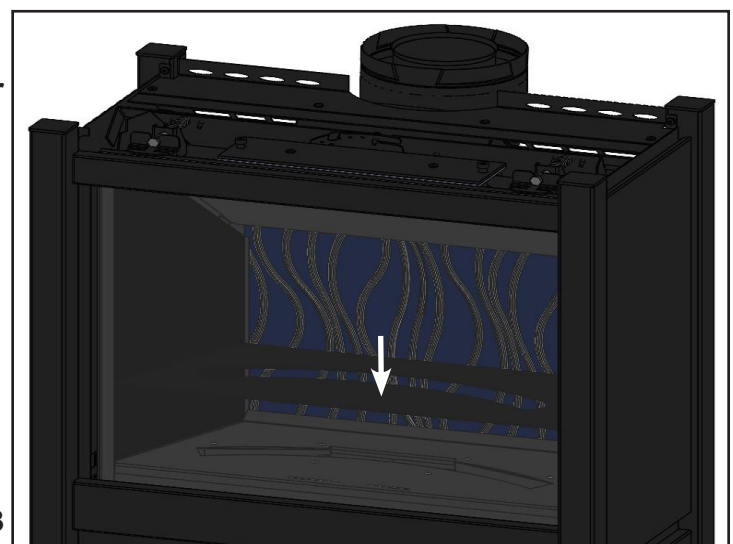

Fig. 13
9. Carefully place the Floor Plate assembly back into position and then place the Floor Glass Panel on top. (**Fig. 13**) **Note: The smooth side of the floor glass panel should face up.**